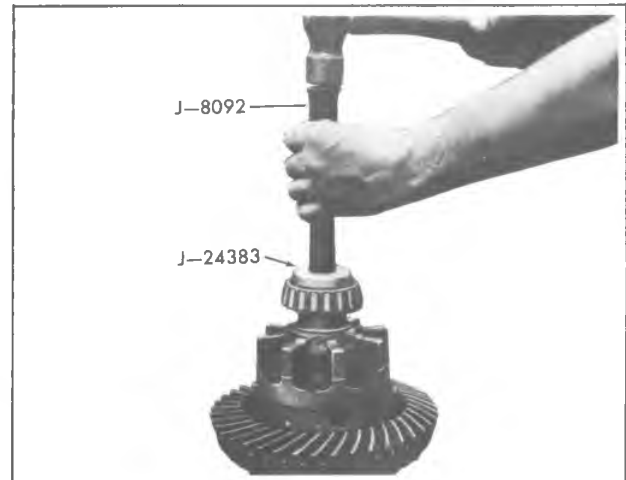

Fig. 7F--Installing Side Bearing
8. Place side bearing into position and install, using tools J-8092 and bearing installer J-24383 as shown in figure 7F.